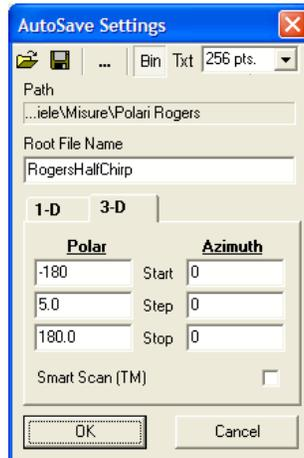

Figure 12.20
Let's start with setting the autosave function (see also 5.3). Pressing **Alt-F2** we recall the Autosave Setting dialog (fig.12.20); here we choose the 3D mode and input the desired file name ('RogersHalfChirp'), polar start (-180), polar step (5), polar stop (180), azimuth start (0), azimuth step (0) and azimuth stop (0).